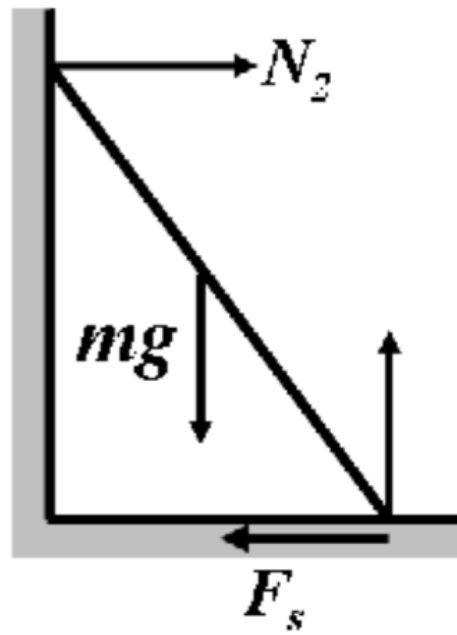

Figure 4: Ladder on wall
6. A ladder leans against a frictionless wall while the bottom rests on a horizontal floor with coefficient of friction μ as shown in Fig. 4. Show that the smallest angle that the ladder can make with the floor without slipping is given by $\tan \theta_{min} = 1/2\mu$. (Oxford)